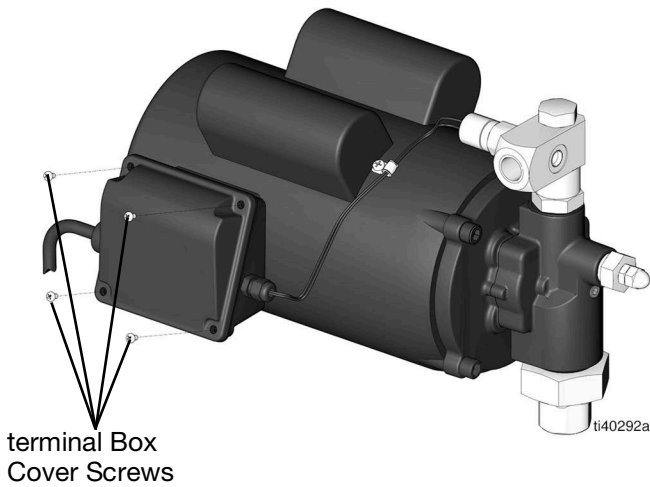

FIG. 15
5. Remove the four terminal box cover screws (FIG. 15).
10. Insert the four terminal box cover screws and tighten (see FIG. 15).